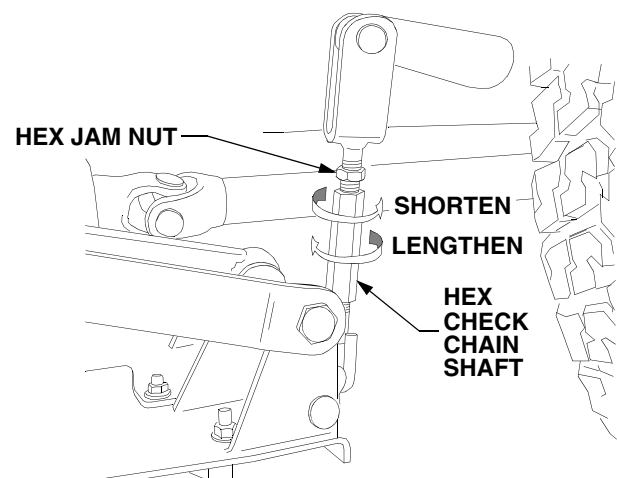

Figure 55
- Move to the left side of the tractor, to the deck check chain assembly. Loosen the jam nut on the check chain. Refer to Figure 55.
- Depending on whether the left side of the deck was higher or lower than the right side, turn the hex shaft of the chain assembly as needed to level the blades to within 1/16" of each other. Turn the hex shaft to the right to shorten the adjustment chain and raise the left side of the deck. Turn the hex shaft to the left to lengthen the chain and lower the left side of the deck. See Figure 55.
- Tighten the hex jam nut against the hex check chain shaft. Refer to Figure 55.